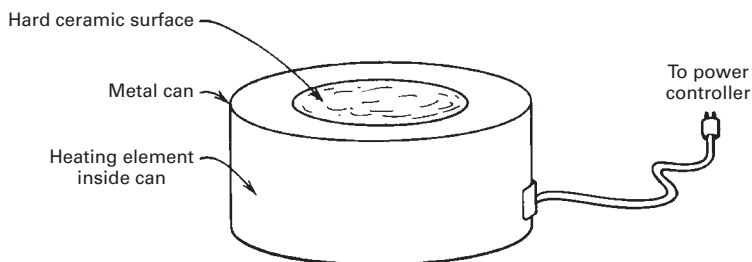

FIGURE 17.6 A Thermowell heating mantle.
3. **Thermowell heating mantle.** You can think of the Thermowell heating mantle as the fiberglass heating mantle in a can. In addition, there is a hard ceramic shell that your flask fits into (Fig. 17.6). Besides just being more mechanically sound, it'll help stop corrosive liquids from damaging the heating element if your flask cracks while you're heating it.